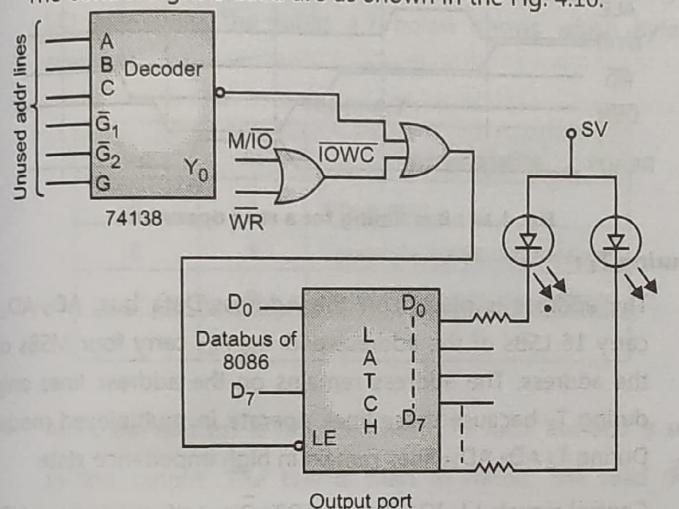

Fig. 4.10
The processor can send 8-bit or 16-bit data on output port. The interfacing of the 8-bit port and 16-bit port can be as shown in the Fig. 4.10.
- For interfacing the ports, the absolute decoding schemes can be used. In this, all remaining address lines can be used for decoding as shown in the Fig. 4.10.
- The control signals used are as shown in the Fig. 4.10.